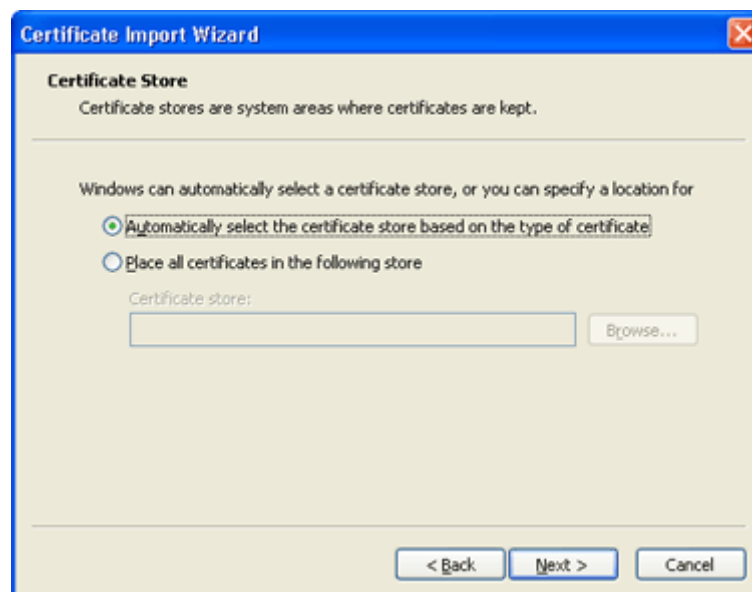

Figure 37. The Certificate Import wizard.
- 7 Make sure that option "Automatically select the certificate store based on the type of certificate" is selected, see Figure 37. Click on "Next".